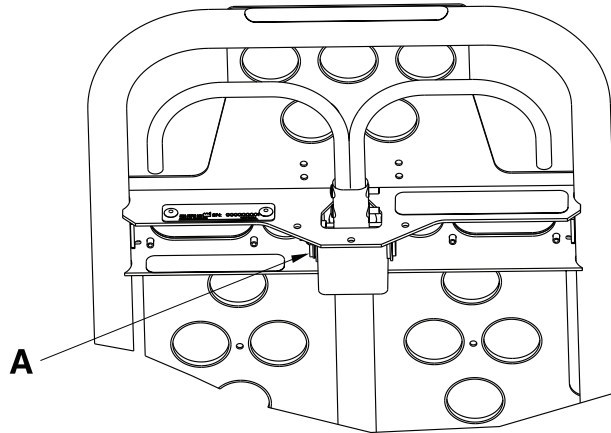

Figure 9: Backrest gas cylinder
- Using a 3/32" hex wrench, loosen the set screw (A) that holds the gas shaft to the yoke. (Figure 9 on page 44).